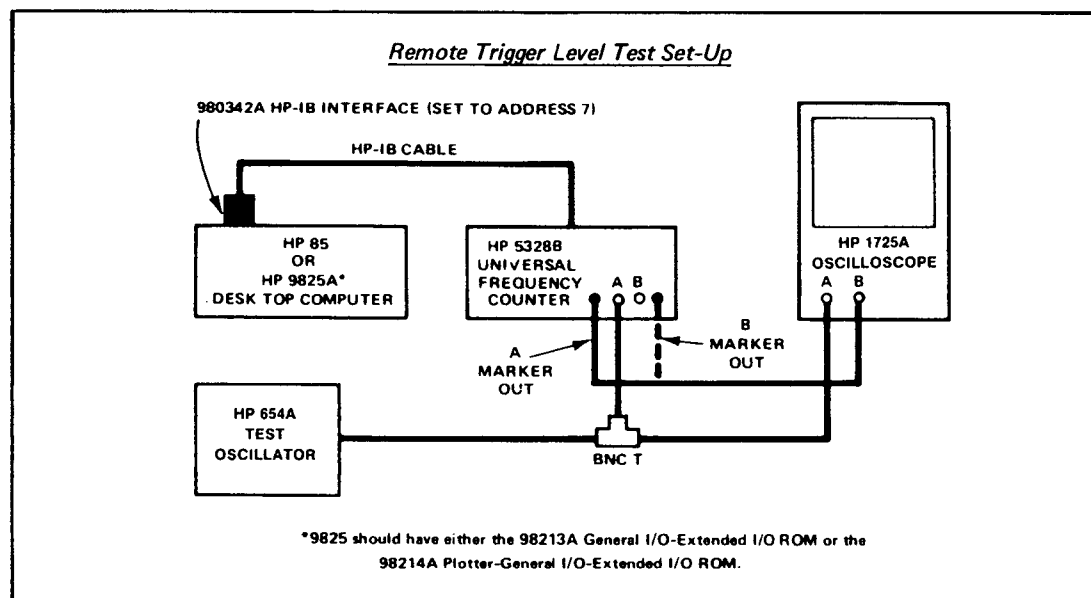

Figure 4-21. Remote Trigger Level Test Set-up
- a. Connect the test setup as shown in Figure 4-21.